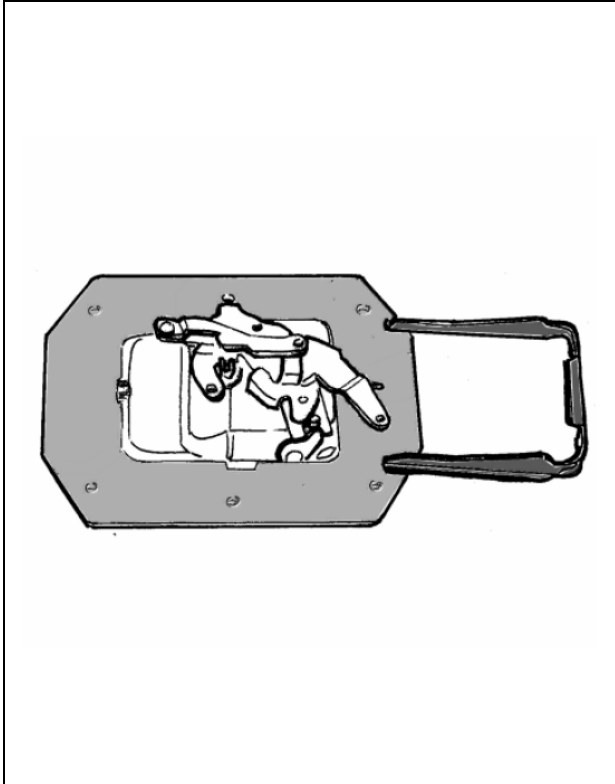

Figure 5-99. RH Door Accessories Assembly (3 of 6).
5. Assemble the OEM external door handle into the door handle adaptor plate as shown in Figure 5-99.